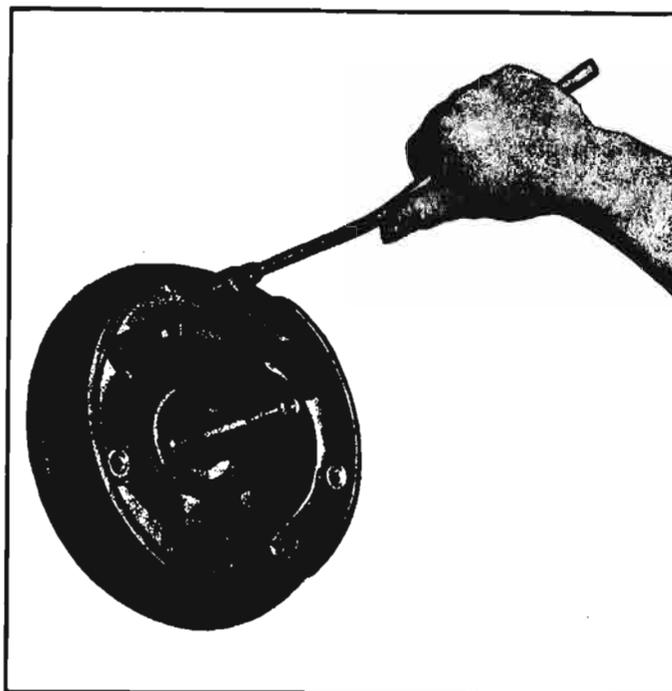

Fig. 5-16—Removing Brake Shoe Return Spring
4. Unhook brake shoe pull back springs from anchor pin using Tool J-8049 (fig. 5-16).
4. Disconnect brake shoe retracting springs from anchor pin (fig. 5-16).